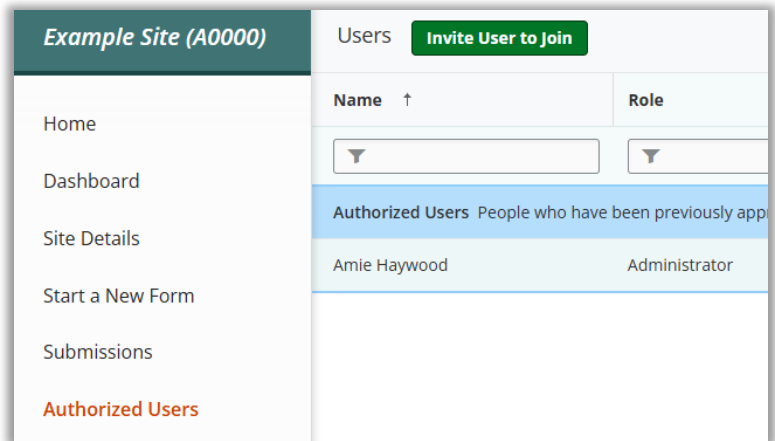

Figure 6-22 – Invite User
Step 3: Click on **Invite User to Join** (Figure 6-22).